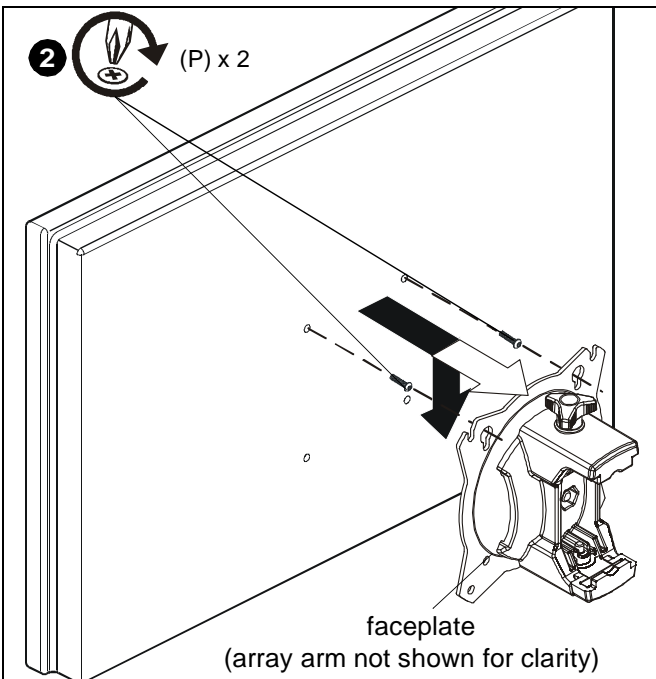

Figure 5
2. Using Phillips screwdriver, carefully install two M4 x 12mm Phillips pan machine screws (P) into the *upper* mounting holes on the display. Thread screws completely into display, then back out 3 complete turns. (See Figure 5)
3. Pick up and align display so that screws (P) (installed on the back of the display in the previous step) fit into the mounting holes on the faceplate. Lower the display firmly into place. (See Figure 5)